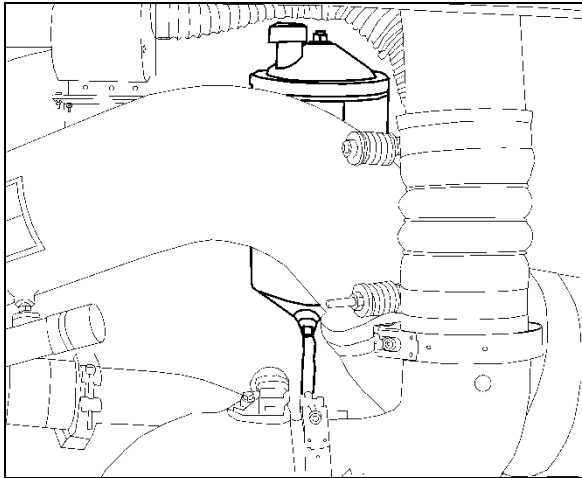

FIGURE 19: HYDRAULIC FLUID RESERVOIR LOCATION
The power steering reservoir is located on R.H. side of engine compartment and accessible through the engine compartment doors. (Figure 19).
3. Insert dipstick in reservoir. Remove it again to check fluid level (Figure 19).